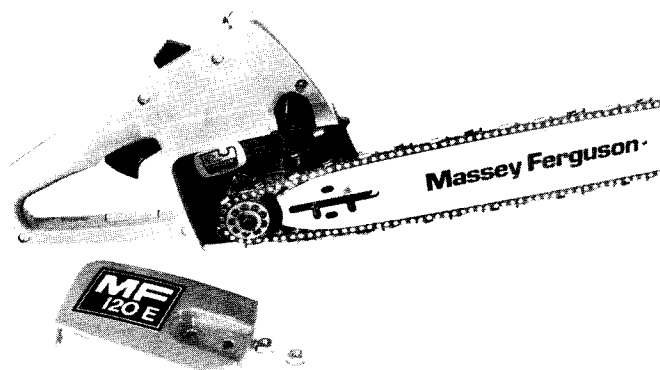

Fig. 1 — Chain Guide Bar Nuts and Guard Removed
1. Remove nuts securing cover and guide bar and remove bar and chain, Fig. 1.
7. Install guide bar, chain and cover, Fig. 1.